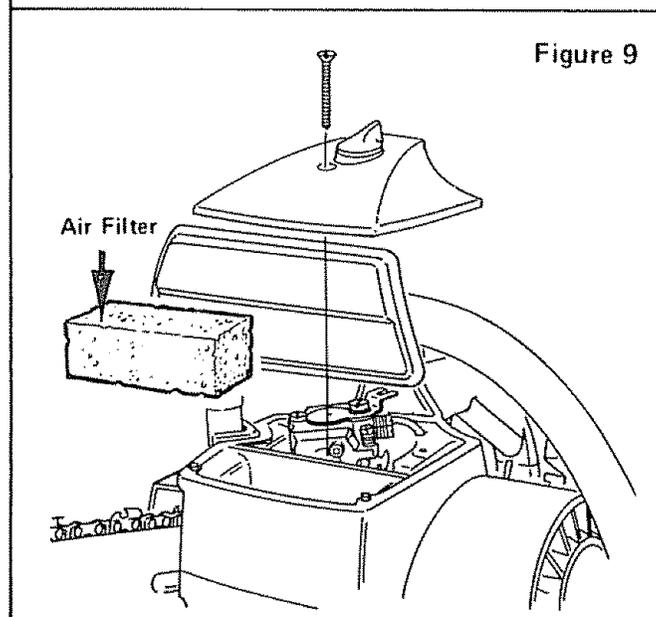

Figure 9
- 1 Remove the carburetor cover and pull out the filter (Figure 9).